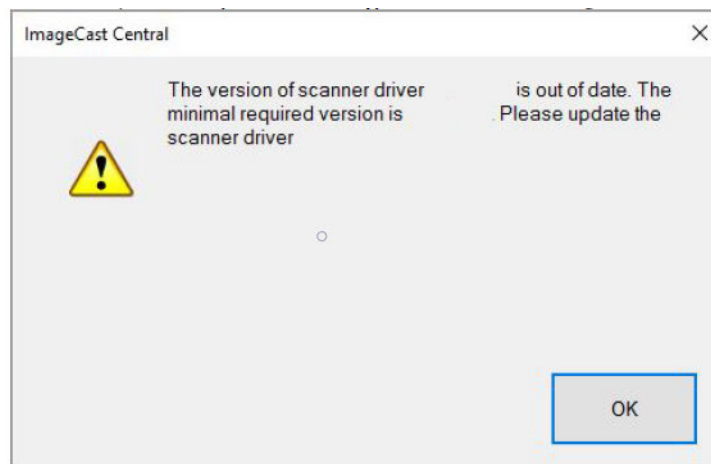

Figure 2-1: DR-G1130 driver version warning message
6. If the message appears, click **OK** to close the warning message. See Figure 2-1